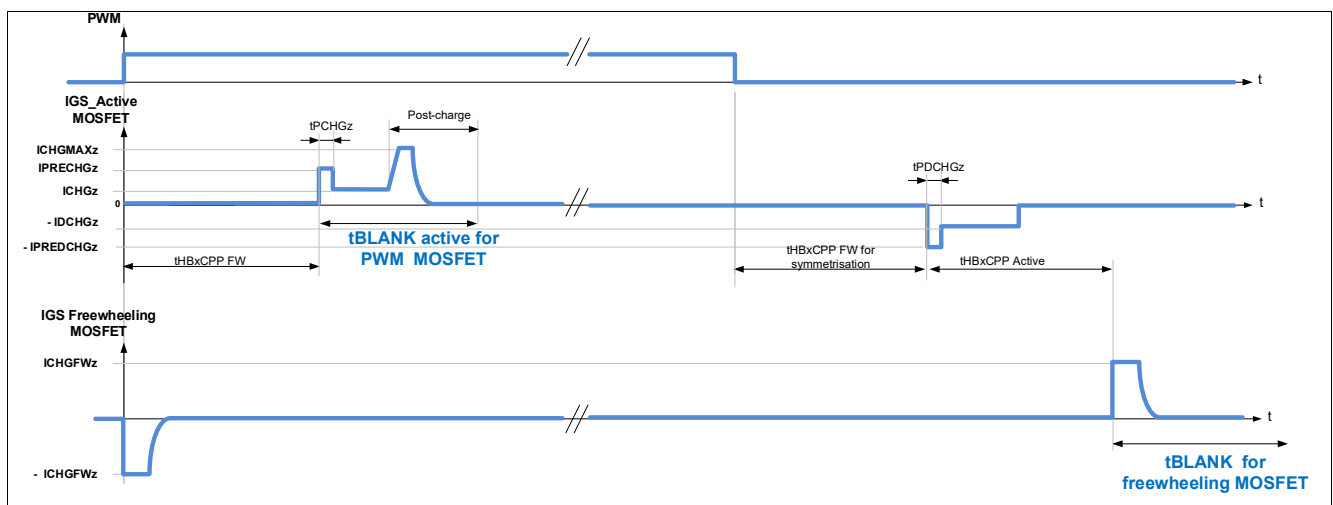
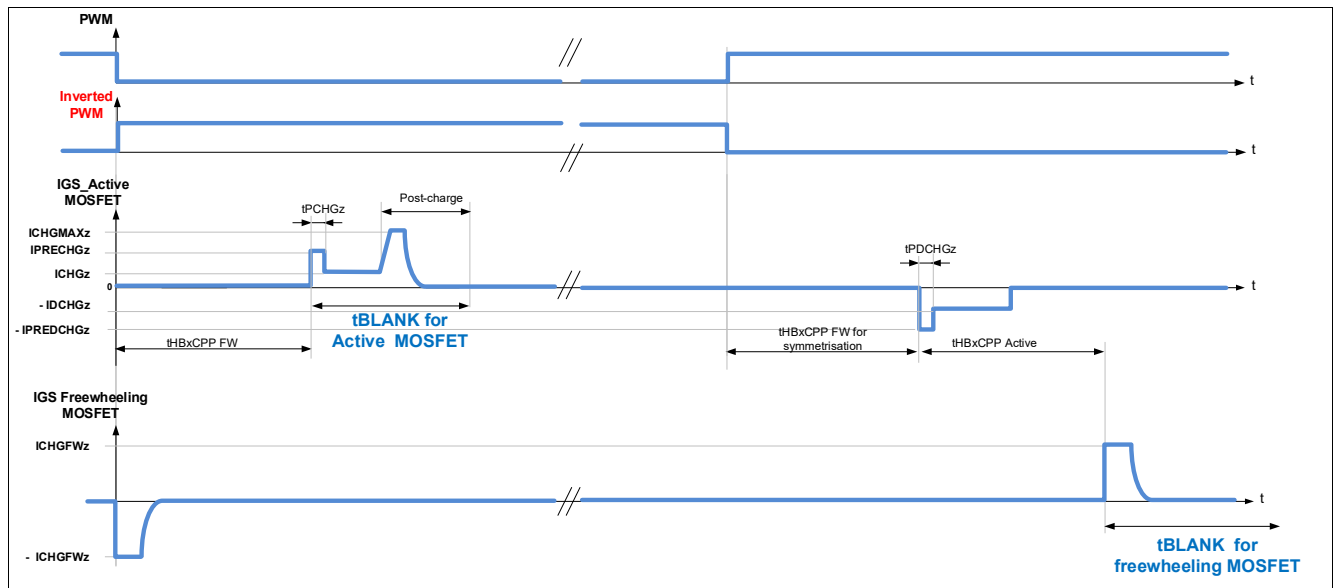

Figure 34 Blank time for half-bridges in PWM operation, detection of generator mode enabled (**EN_GEN_CHECK** = 1), motor operating as load
Figure 35 Blank time for half-bridges in PWM operation, detection of generator mode enabled (EN_GEN_CHECK = 1), motor operating as generator
- The blank time of the Active MOSFET starts at the expiration of the cross-current protection time of the FW MOSFET ($t_{HBxCCP\ FW}$). Refer to **Figure 34** and **Figure 35**.
- The blank time of the FW MOSFET starts after expiration of the cross-current protection time at turn-off of the Active MOSFET ($t_{HBxCCP\ Active}$). Refer to **Figure 34** and **Figure 35**.